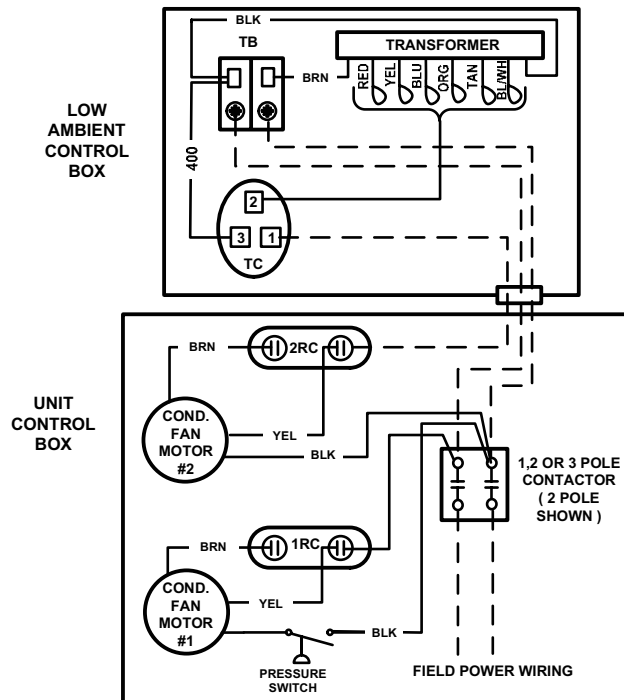

FIGURE 4 - HA 090, 120 / HF-07, -10 CONNECTION DIAGRAM
11. On HA090, 120/HF-07, -10 units remove the wire connecting (2RC) to the load side of the contactor, leaving condenser fan motor #1 connected so that it operates normally as controlled by the pressure switch (PS). See Figure 4.